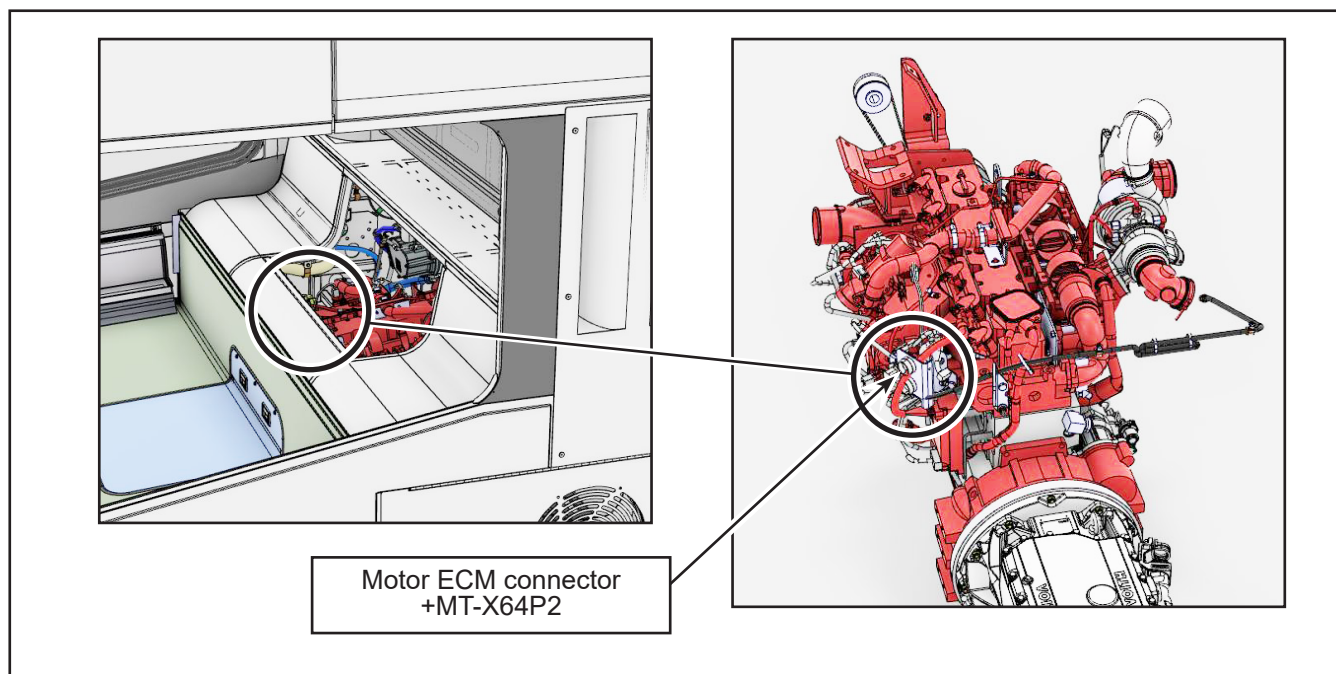

Figure 7 - Motor ECM Connector Location (Components Removed for Clarity)
- 1.16. Locate the motor Electronic Computer Module (ECM) connector +MT-X64P2 (Figure 7) and disconnect it.